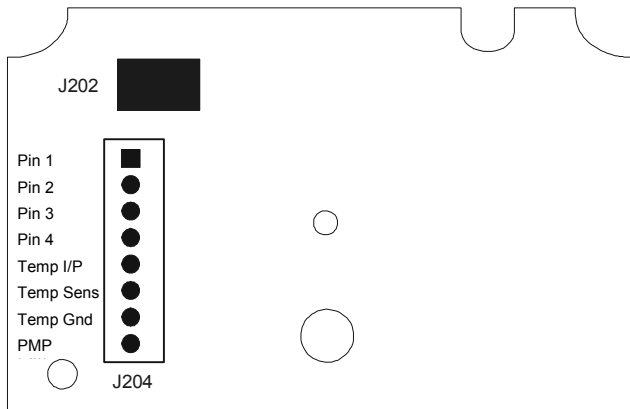

Figure 1: Outer Side of Back PCBA
- Remove the back cover. The connectors are exposed on the back PCBA as shown in the Figure 1 below.
Remove the screw located center of the back PCBA (Figure 1). Detach the back PCBA from the Transmitter. Turn over the back PCBA. Locate J201 jumper on the inner side of the back PCBA as shown in Figure 2 below.